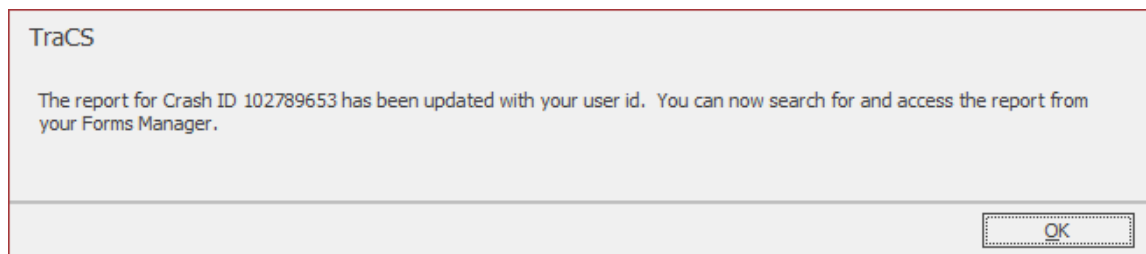

Figure 60. TraCS Message
3. Enter the DMV Crash ID and click **OK**. The **TraCS** message displays, as shown in Figure 60.